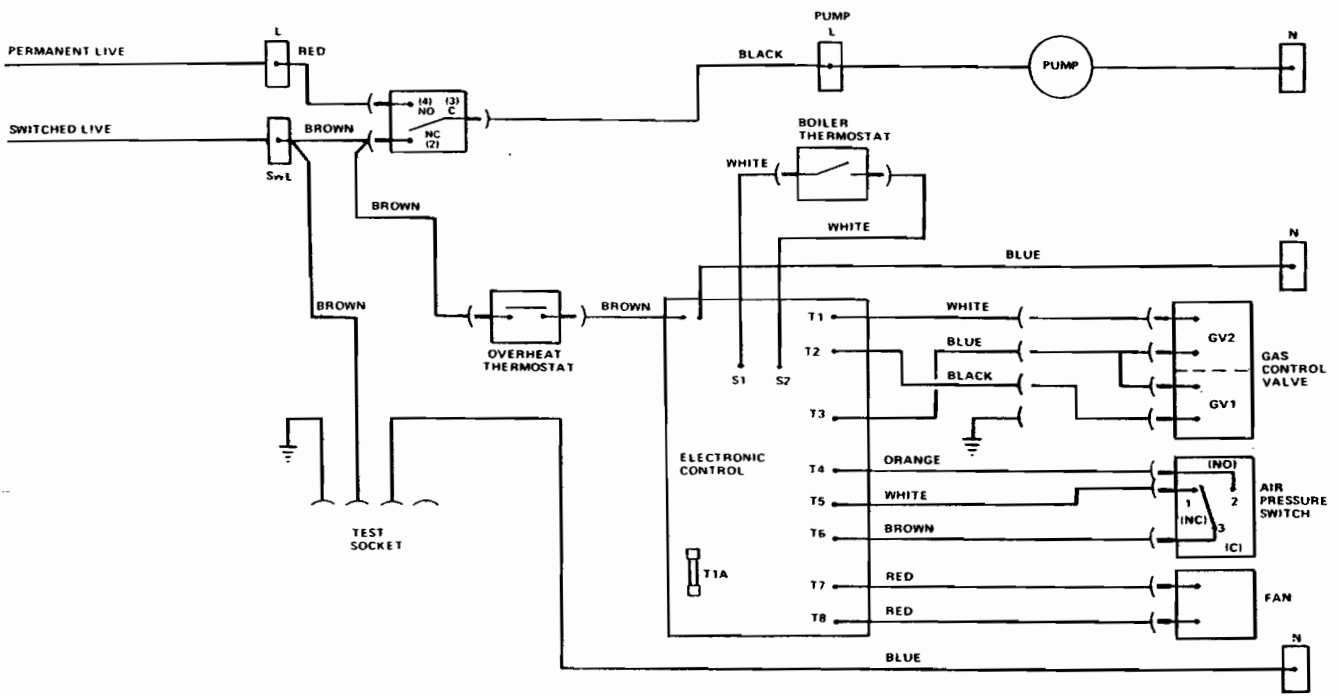

FIG. 26 FUNCTIONAL FLOW DIAGRAM
Refer to Fault Finding Chart FIG. 30 and Wiring Diagram FIGS. 26, 27.
4. Disconnect the electrical supply from the gas valve. With Honeywell, note the individual wire positions. Refer to FIGS. 26 and 27.